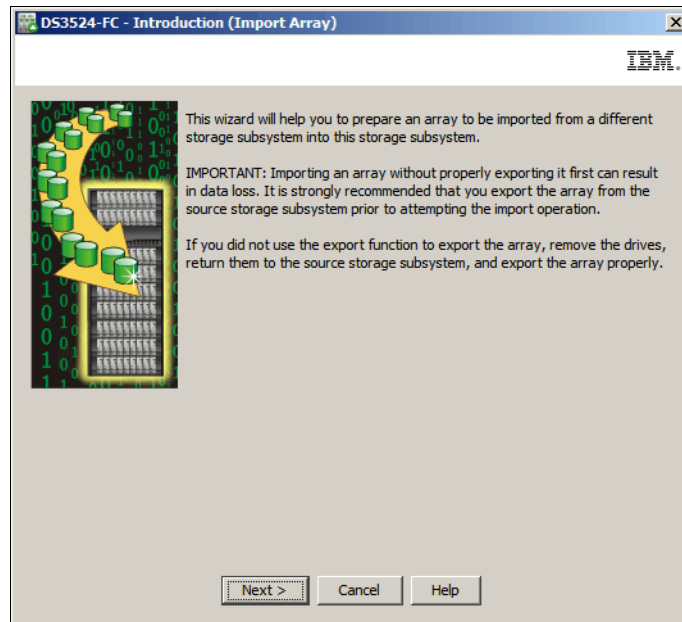

Figure 14-109 Introduction (Import Array)
2. The **Introduction (Import Array)** window is displayed as shown in Figure 14-109 on page 399. Read the information and then click the **Next** button to continue.